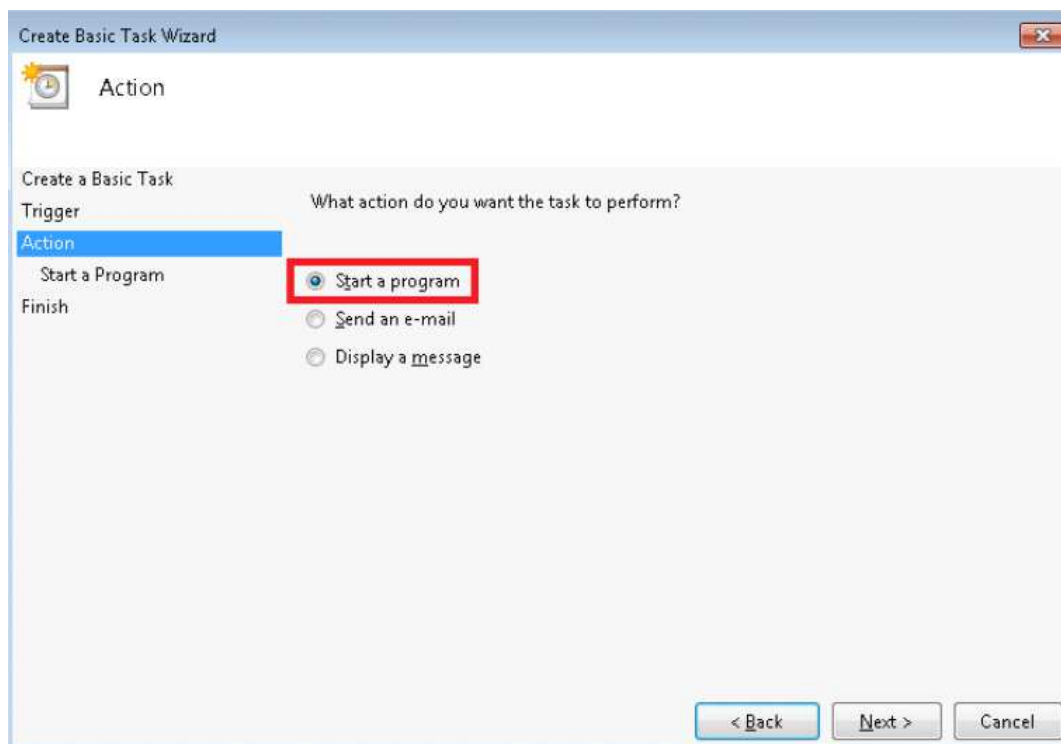

Fig. C.38: Action window
STEP 5 – In *Create Basic Task Wizard* window please choose *Start a program* option in the *Action* panel and then click *Next* (Fig. C.38).